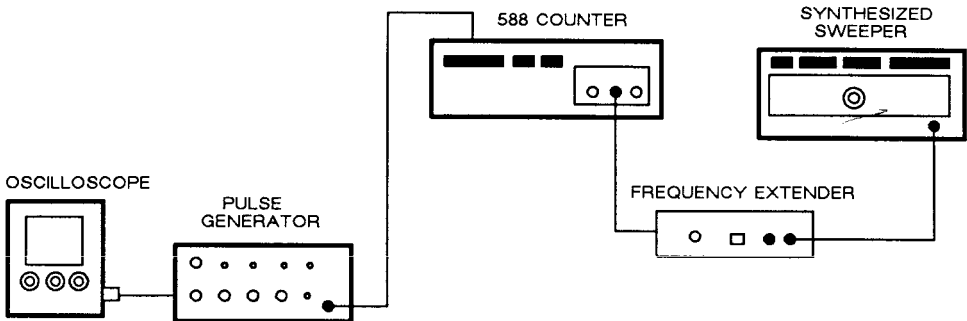

Figure 5-5. Band 3 Gate Error Calibration
1. Set up equipment as shown in Figure 5-5.